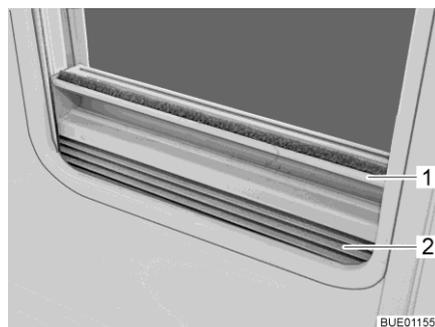

Fig. 55 Roman shade
- Closing:** ■ Grip the Roman shade (Fig. 55,2) in the middle of the holding bar (Fig. 55,1), pull it upwards and then release it at the desired height. The Roman shade will stay at this height.